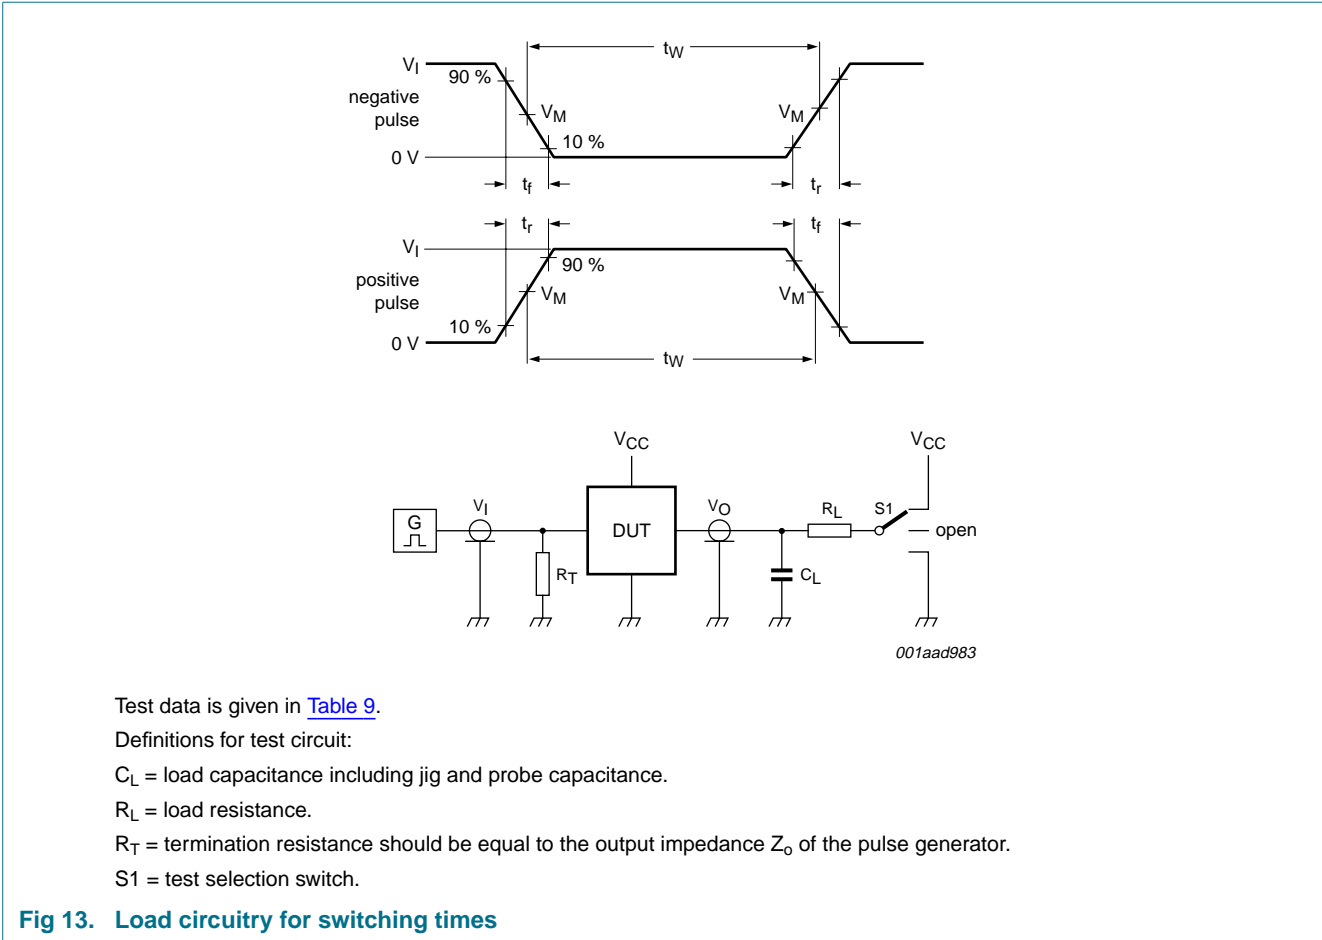

Fig 13. Load circuitry for switching times
**Table 7. Dynamic characteristics ...continued**Voltages are referenced to GND (ground = 0 V); for test circuit see Figure 13.
Voltages are referenced to GND (ground = 0 V); for test circuit see Figure 13.